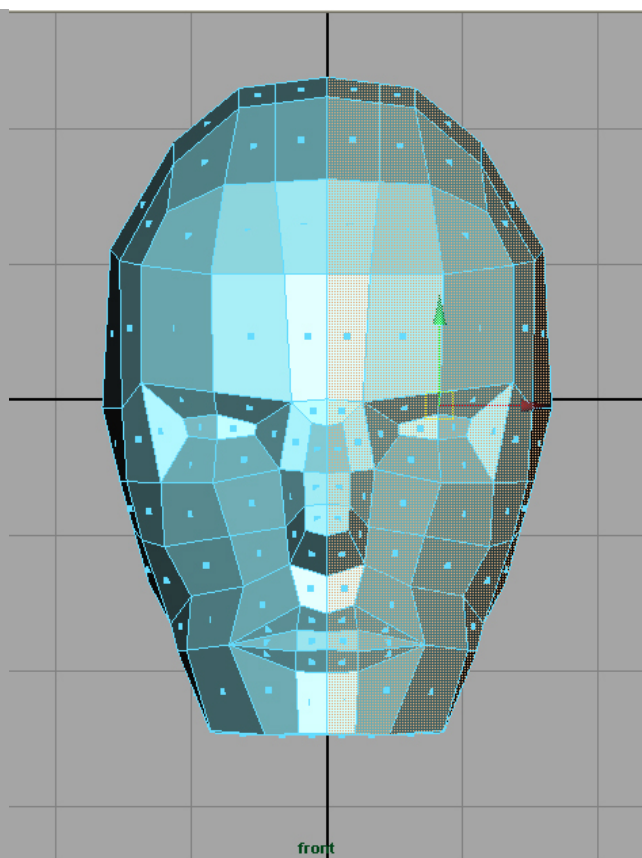

Fig 08
8. Probably tired of modeling symmetrical features on both side aren't you? Lets fix that. Change component mode to "Face" (RMB click on the model to bring up the marquee menu and select face), and select all the faces on one half of the face and delete them. You only should have half of the head remaining. (Fig 08)